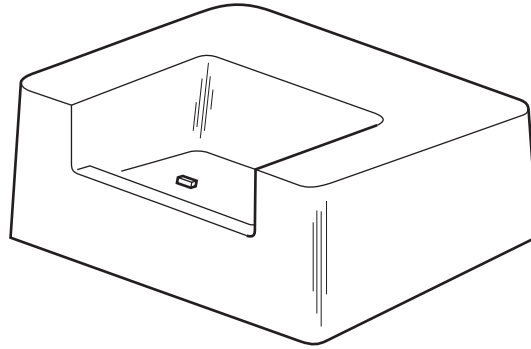

Fig. 4
- 4 Fig. 4 shows a charging station for a cordless telephone. The charging station is made from injection moulded plastic.
- (b) Name **two** specific plastics suitable for making the charging station shown in Fig. 4.